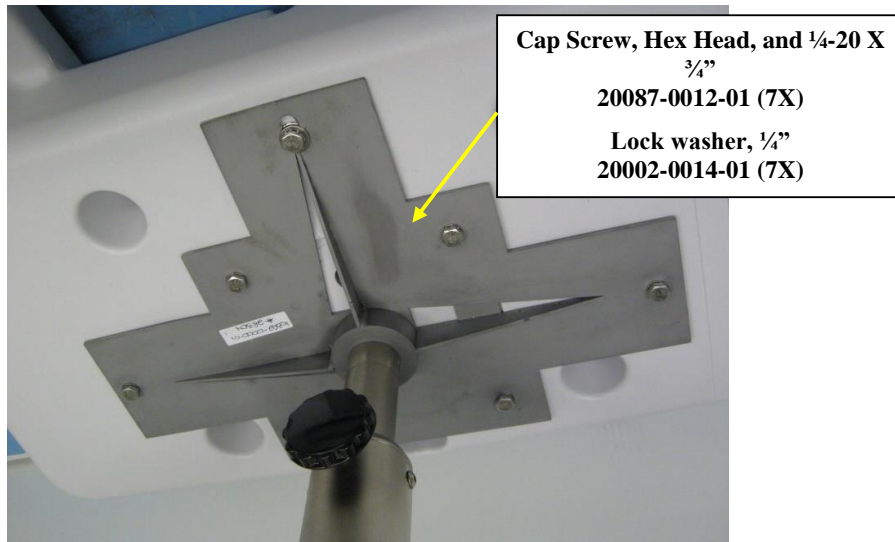

Figure 48
- 3.4.2. Remove the cart's top shelf assembly from the pole assembly by removing the hardware as shown in Figure 48 and then put the hardware back in these (7) locations (loose fit).